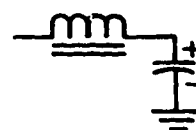

Figure 6-23. L-type inductive input filter.
L-type filter. Now consider two different types of L-type filters as they are connected to rectifiers. One is an L-type inductor input filter, and the other is an L-type capacitor input filter. Two components that comprise the filter are the inductor (L) and the capacitor (C). Figure 6-23 shows an L-section inductor input filter.